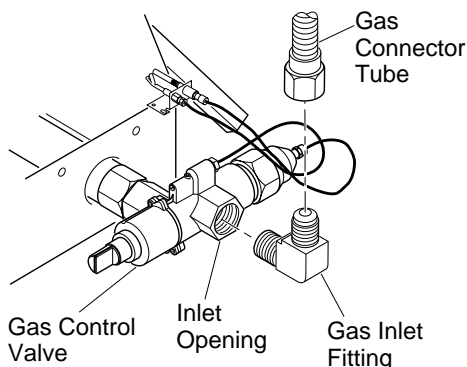

Figure 13 - Installing Inlet Fitting and Gas Connector Tube
- Install the inlet fitting into the inlet opening of the gas control valve (see Figure 13). Use thread sealant on the male pipe threads.